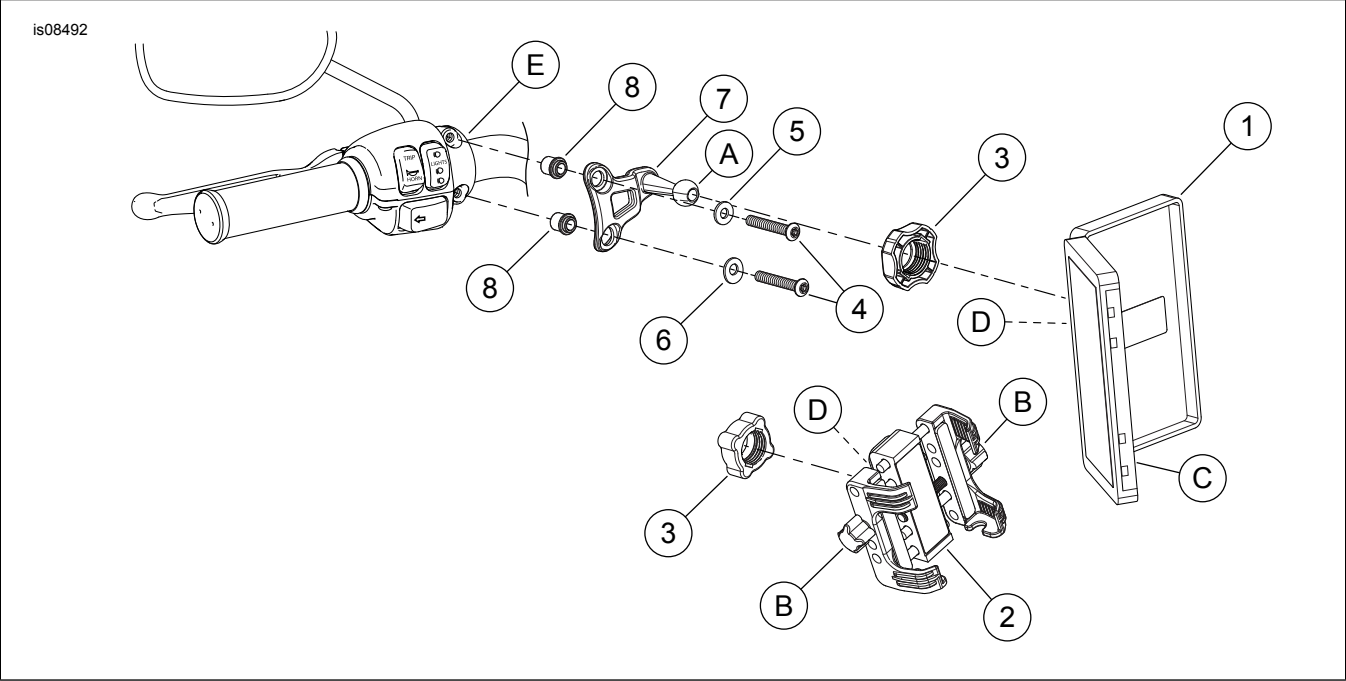

Figure 1. Service Parts: Smartphone Mounting Kit
See Figure 1 and Table 1.
1. See Figure 1. Remove clamp (E) upper screw.